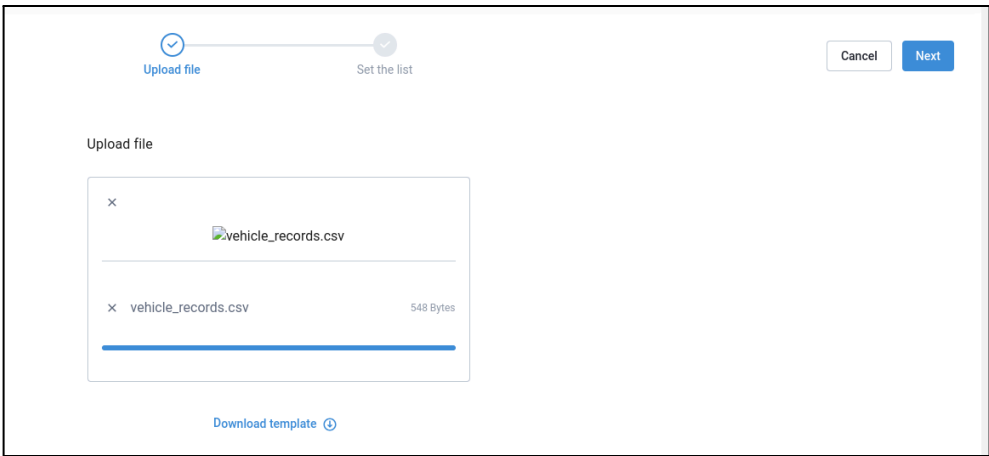

Figure 41: Uploading the CSV file
- 2. Once the CSV is uploaded, click **Next**. See Figure 41.